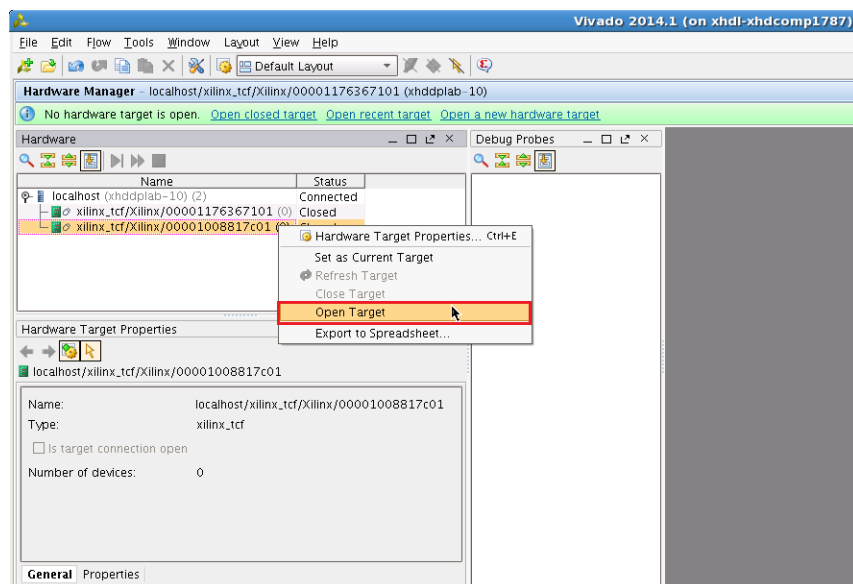

Figure 25: Open Second Target Platform
10. Right-click the second target platform in the Hardware list and select **Open Target** (Figure 25).